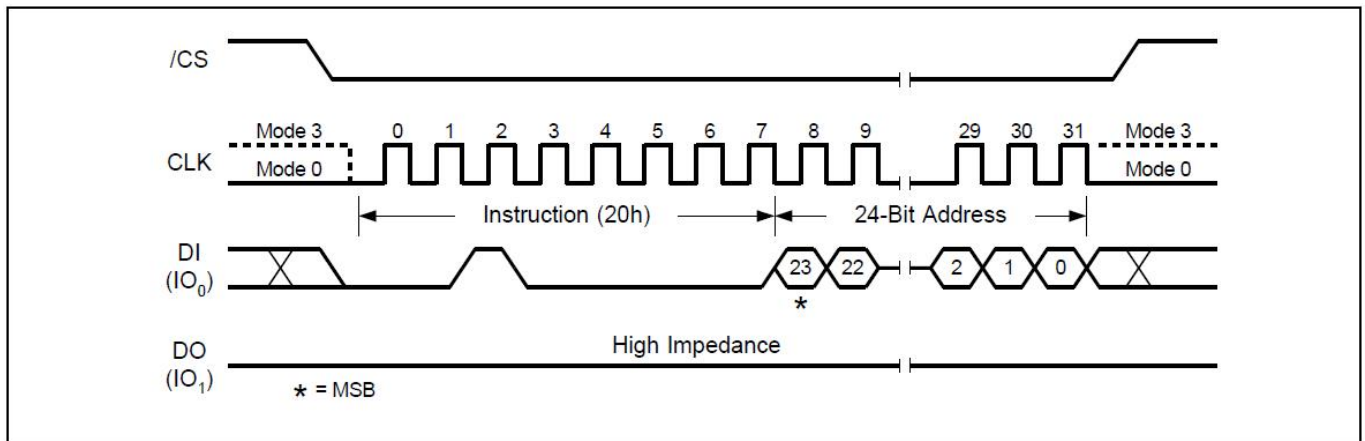

Figure16. Sector Erase Sequence Diagram
The Sector Erase command sequence: CS# goes low → sending Sector Erase command → 3-byte address on DI → CS# goes high. The command sequence is shown in Figure16. CS# must be driven high after the eighth bit of the last address byte has been latched in; otherwise the Sector Erase (SE) command is not executed. As soon as CS# is driven high, the self-timed Sector Erase cycle (whose duration is tSE) is initiated. While the Sector Erase cycle is in progress, the Status Register may be read to check the value of the Write in Progress (BUSY) bit. The Write in Progress (BUSY) bit is 1 during the self-timed Sector Erase cycle, and is 0 when it is completed. At some unspecified time before the cycle is completed, the Write Enable Latch (WEL) bit is reset. A Sector Erase (SE) command applied to a sector which is protected by the Block Protect (SEC, TB, BP2, BP1, and BP0) bit (see Table 1-6) is not executed.